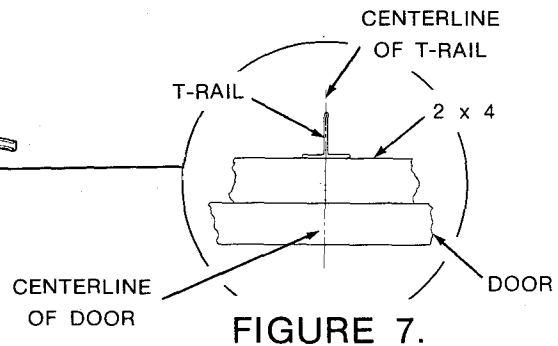

FIGURE 7.
- 6.) Make sure centerline of operator T-rail is in alignment with centerline of door. (See Figure 7.)